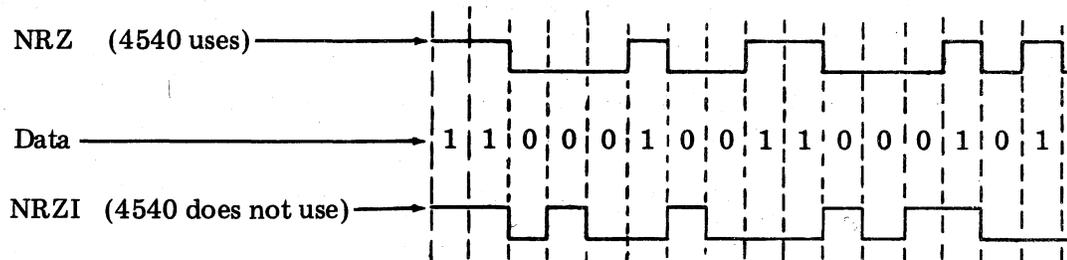

Fig. 19—Transmission of Data Using NRZ or NRZI
9.02 Data is encoded for transmission using the direct or NRZ (Non Return to Zero) method as opposed to the NRZI (Non Return to Zero, Inverted) method. Data encoded using NRZ changes state when the bit changes state. Data encoded using NRZI changes state only when sending binary 0 (see Fig. 19). Zero insertion (see Page 74) automatically provides change of state when transmitting binary 1s. Changes of state are only important when a modem does not provide clock to the receiver. The 4540 ADCCP can share the same communication line with other ADCCP and SDLC stations, provided that all use the direct method of data encoding (NRZ).